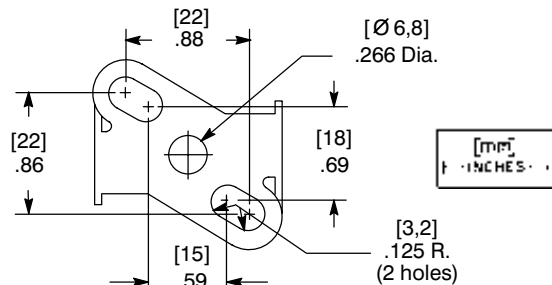

Figure 1. Mounting dimension of optional mounting bracket.
For mounting bracket (optional feature) see Figure 1.
2. Replace piston assembly, refer to Figure 1. A flexible plastic sheet (Form No. V5661) is provided in the Rebuild Kit for installation of the piston assembly. Wrap piston assembly with plastic sheet; be sure one edge of the sheet is even with the top of the piston assembly. Then compress piston ring with plastic sheet and slide piston assembly into cavity.